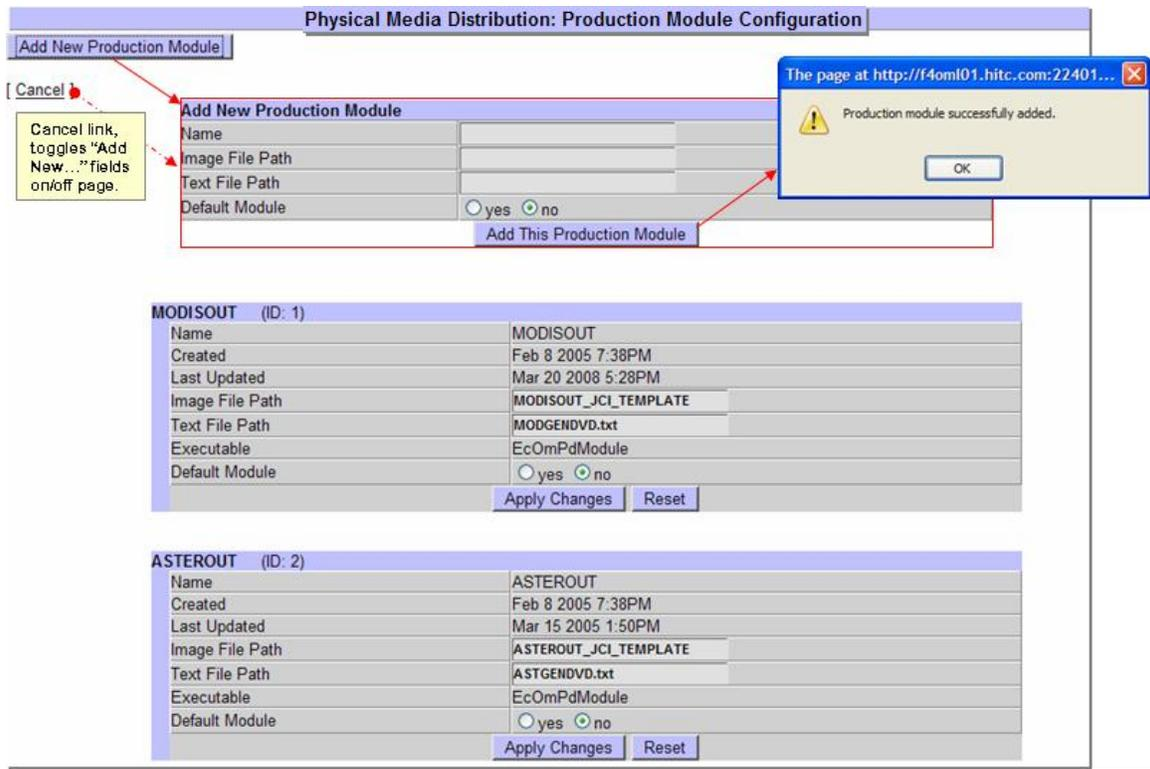

Figure 15.12-20. PMD Production Module Configuration Page
The **OM GUI** handles the configuration of production modules used in physical media creation. Production modules can be “added” and production module parameter values can be “edited.” The **PMD Module Configuration** page (Figure 15.12-20) displays the following information for all currently configured production modules:
- 2 Click **PM Configuration** submenu option to display the **Physical Media Distribution: Production Module Configuration** page (Figure 15.12-20).
- ▶ Click the **Add New Production Module** button on the **PMD Production Module Configuration** page (Figure 15.12-20).